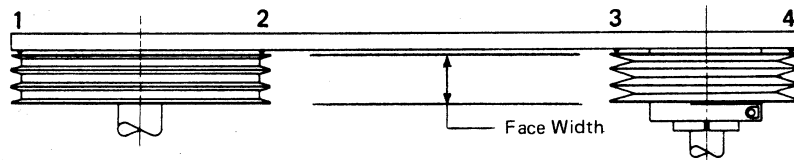

Fig. 2
5. Align the SVS with the companion sheave by using a straightedge or a piece of string. Place the straightedge against the machined outside surfaces of the outside flanges of both sheaves. The straightedge should touch all four surfaces as shown in Fig. 2.